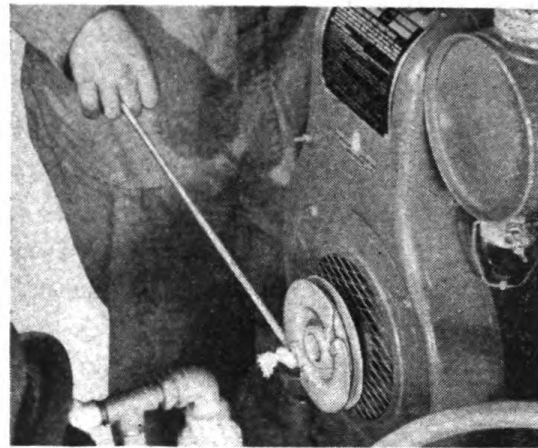

Figure 12
d. Insert knot at end of starter rope in the notch in the starting pulley, and wind the rope on the pulley in a clockwise direction. Then pull briskly on the rope (See Figure 12) to turn the crankshaft. If the engine does not start on the first applica-